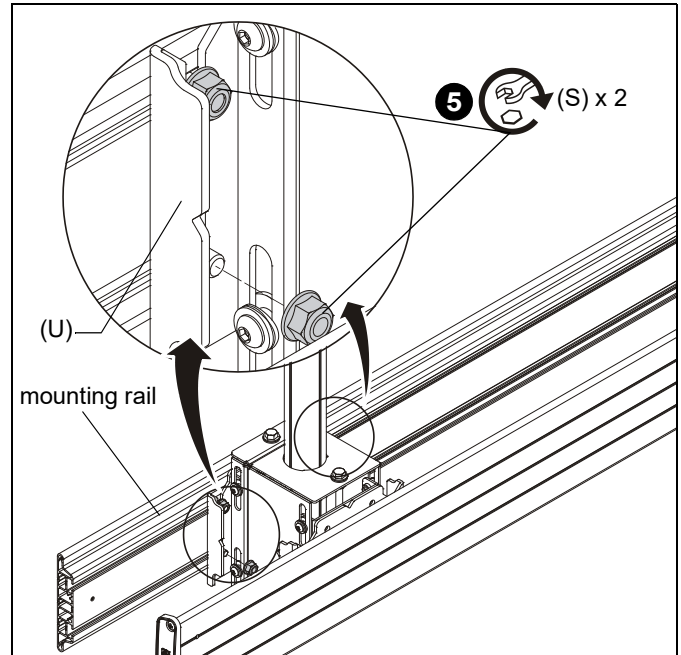

Figure 10
2. Partially fasten one 5/16" lock nut (S) to each stud on **upper** T-slot studs.
3. Slide top T-slot studs (Q) with attached lock nuts (S) down into top openings on add-on head (U). (See Figure 10)
4. Slide studs on lower T-slot stud (Q) into lower slots on add-on head (U) while bringing mounting rail against add-on head (U).
5. Tighten array head (U) to mounting rail by tightening lock nuts on upper T-slot studs and adding two 5/16" lock nuts (AA) to lower T-slot studs (Q). (See Figure 10)